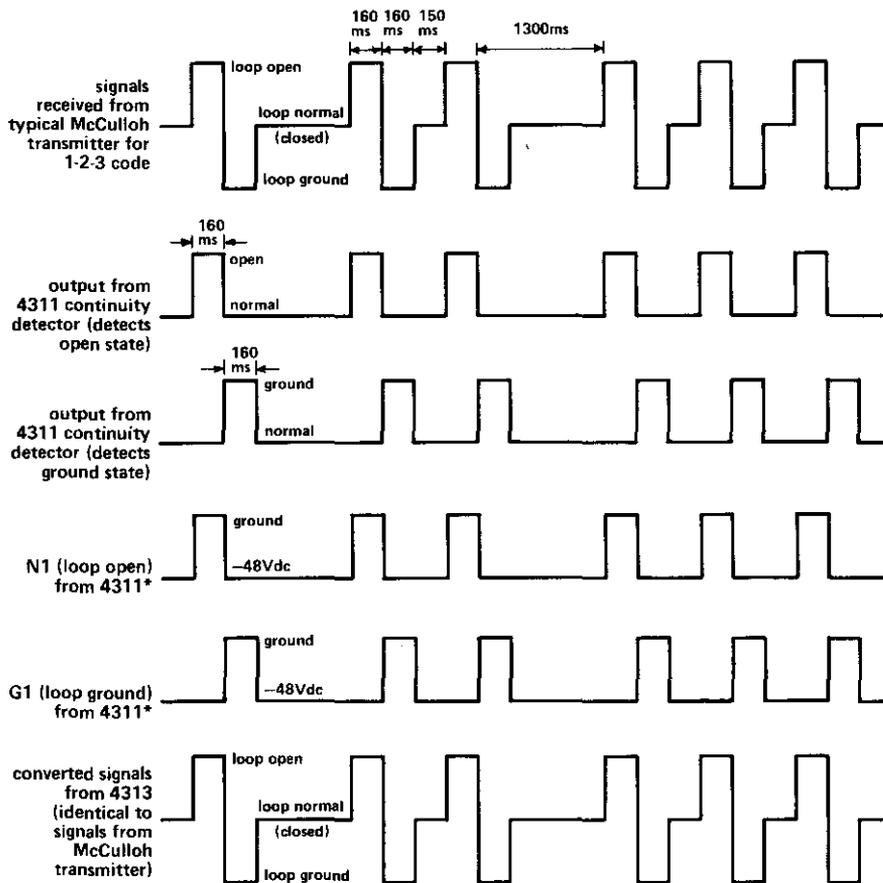

figure 4. 243 System signaling: timing sequence for 1, 2, 3 code
2.04 At the receiving end of the circuit, the 4313 module receives the *N1* and *G1* signals and converts them back into exact duplicates of the original loop-open and loop-ground alarm signals. These duplicated loop-open and loop-ground signals are then transmitted over a 2wire metallic loop to the McCulloh system's alarm receiver at the CAS. Figure 4 shows loop conditions and timing sequences for all signals generated by the McCulloh system and the 243 System during normal operation, i.e., with no faults present and with the 4311 module's *N1* and *G1* outputs optioned for normal (not inverted) signaling states as described below.